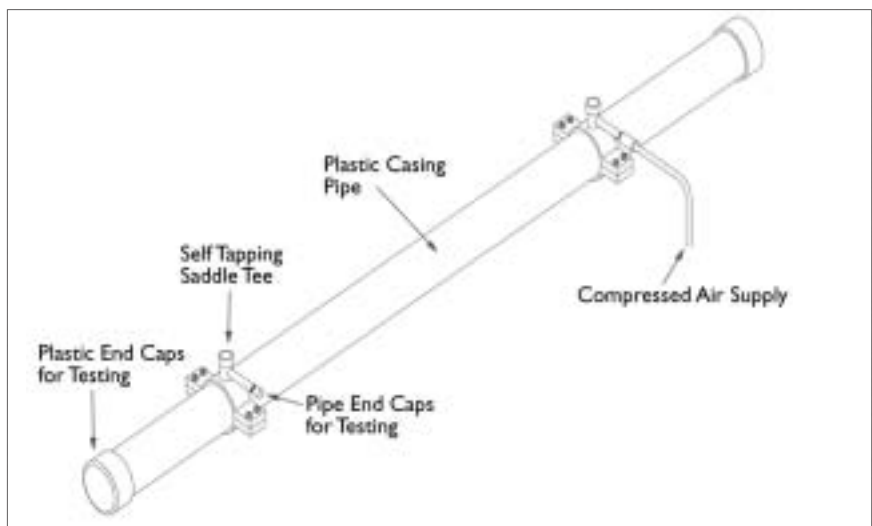

Figure 4. Testing of Encasement.
- Testing of Encasement—If required by the governmental agency, pre-installation testing of the plastic encasement can be completed. This would be a new concept to air test an encasement to ensure air tightness and qualify the integrity of the encasement. (See Figure 4.)